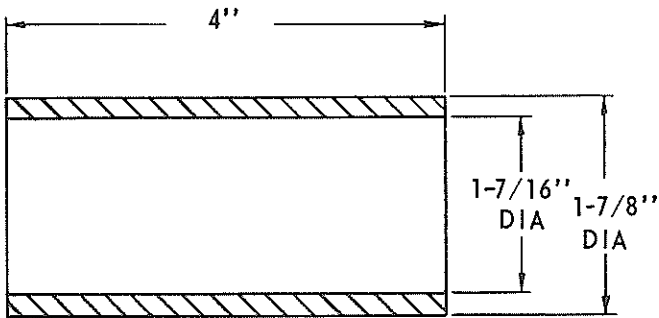

FIG. 75
1. Press inner pinion bearing on pinion using steel tubing for driver (Fig. 74). Driver dimensions are given in Fig. 75.